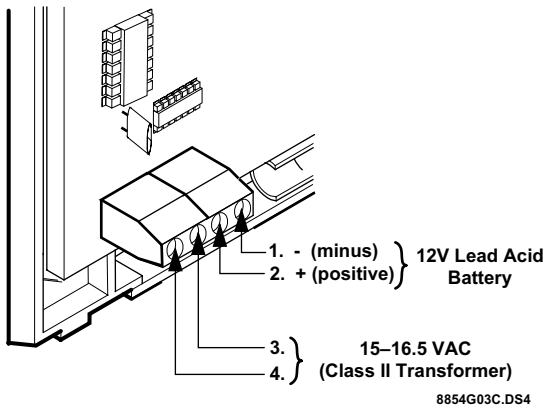

Figure 3. Connecting Class II with Backup Battery
- ③ A 15–16.5 VAC Class II Transformer with a minimum 2 VA rating and a 12V lead acid battery with a minimum 1.3 Ah rating for 24-hour backup (see Figure 3).
- 2) Connect the wires to repeater terminals 1 and 2 (see Figure 3 or 4).